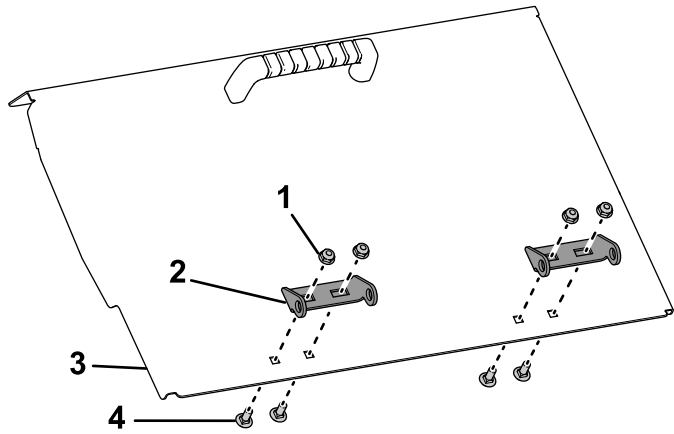

Figure 7
- Install the hinge to the hopper door using the supplied carriage bolts (1/4 x 5/8 inch) and locknuts (Figure 7).